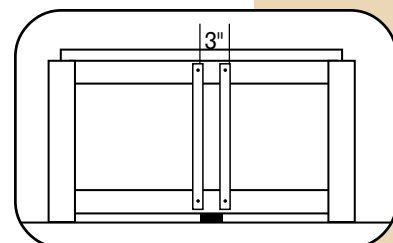

Fig. 35
- Balusters must be installed no more than 3" apart\* (Fig. 35). Use a level and a square to ensure proper alignment of each Baluster. *Note: A piece of scrap Side Rail cut 3" wide can be used as a spacer when installing Balusters.*